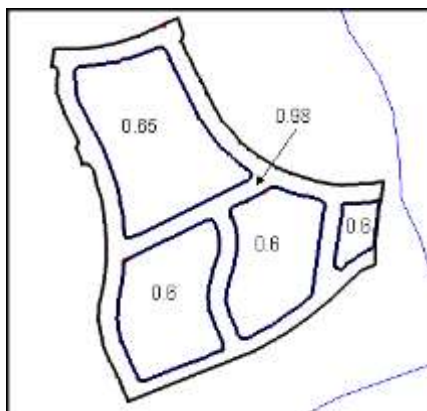

Figure 1 Runoff coefficients
4. Use Figure 1 to assign runoff coefficients by double-clicking each polygon and assigning the appropriate coefficient in the *Runoff Coefficient* dialog, then clicking **OK**.